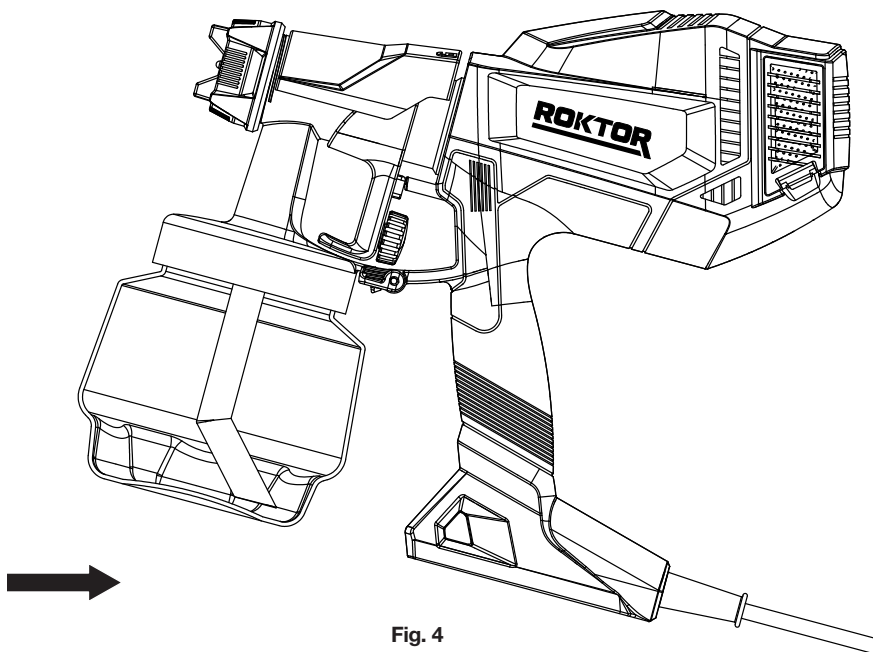

Fig. 4
- 2c) If you are going to be spraying in an upward direction, the angled end of the suction tube should be toward the rear of the gun. **See Fig. 4**